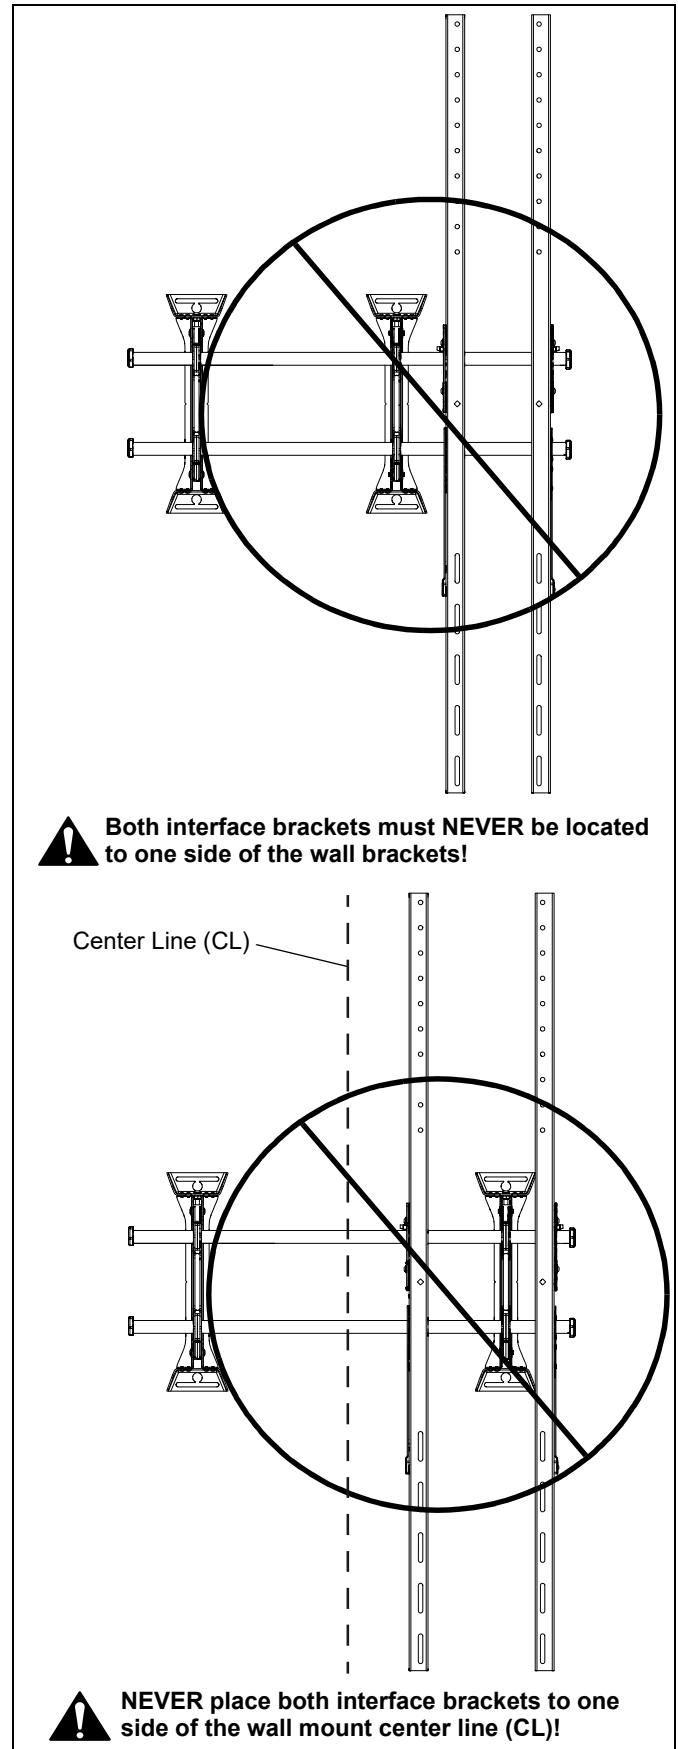

Figure 10
**NOTE:** NEVER place both interface brackets (V and W) to one side of the wall mount center line! (See Figure 10)
**NOTE:** Do NOT allow both interface brackets (V and W) to be located on same side of wall bracket. (See Figure 10)